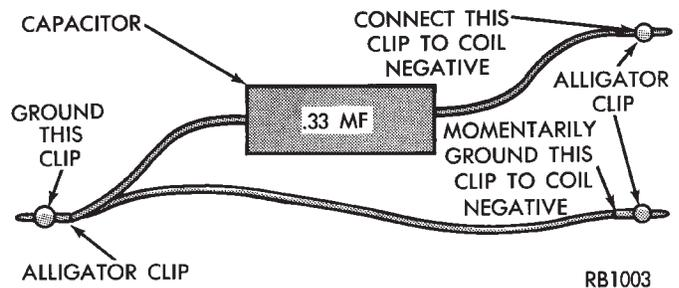

Fig. 17 Special Jumper Ground-to-Coil Negative Terminal
(5) Remove test lead from the coil positive terminal. Connect an 18 gauge jumper wire between the battery positive terminal and the coil positive terminal.
(6) Make the special jumper shown in Figure 17. Using the jumper, momentarily ground terminal-19 of the 60-way connector. A spark should be generated at the coil cable when the ground is removed.